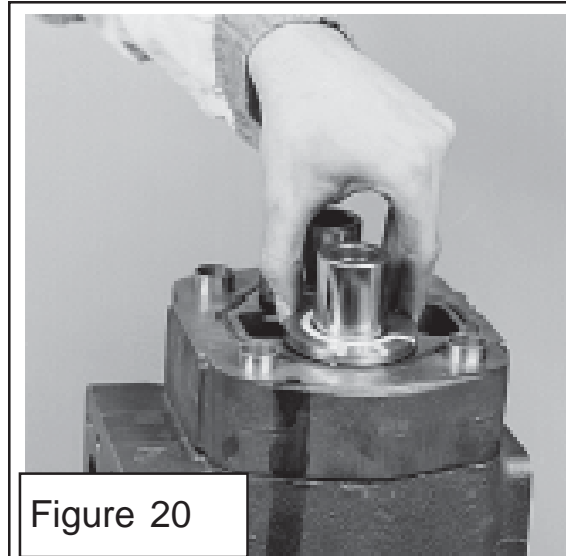

Figure 20
5. The channel seal will fit into a grove on the thrust plate, this groove is all the way around and on both sides of the shaft (Note a Pump channel seal in only on one side) (figure 20). The Thrust plate is flat on one side with two relief notches. The flat side of the thrust plate with the relief notches will always face the gears. The relief notches will be the same and can be installed with either notch to either port, check to make certain when these are removed that they were installed correctly.